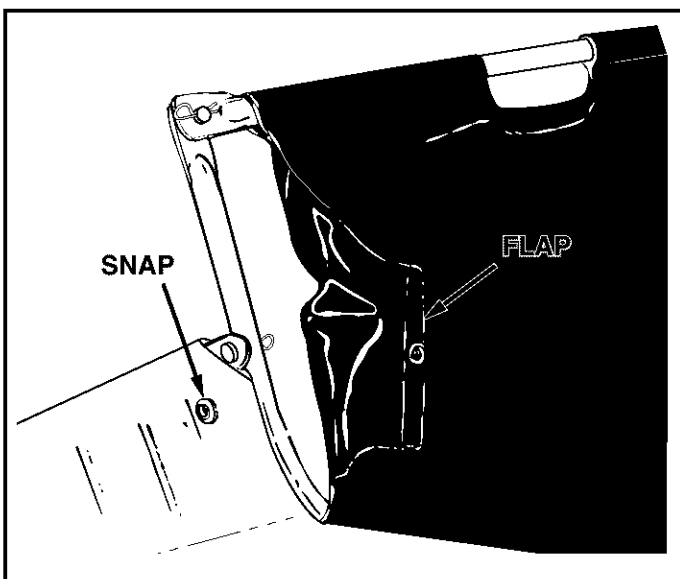

FIGURE 14
- Secure the bag corners around the lower hopper tubes by snapping the bag flaps to the bag bottom. See figure 14.